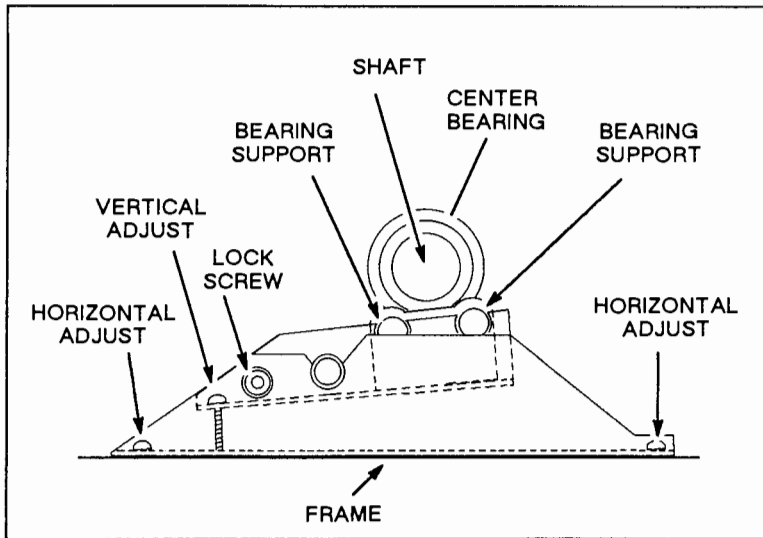

Figure 6-7. Center Bearing Support
- k. Raise the support until there is no front to back play in the assembly. See Figure 6-7.